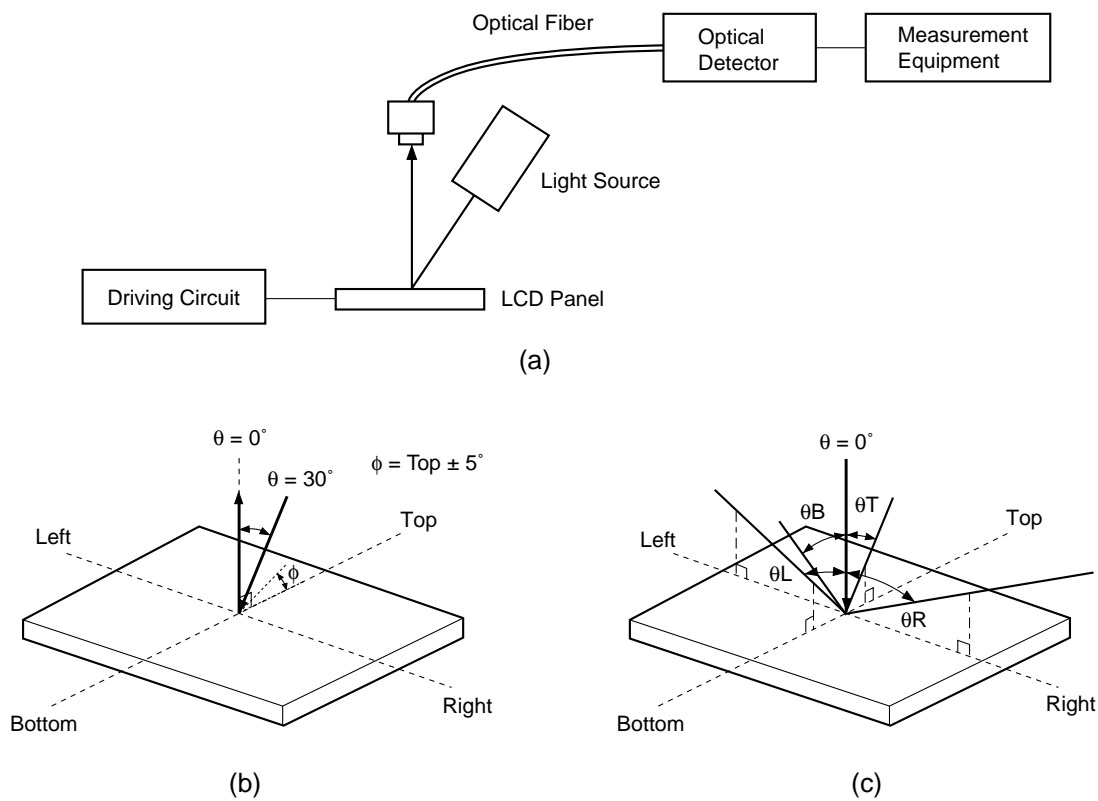

Fig. 1 Measurement System-1
1. Reflection ratio (R)
In the Measurement System-1 (see Fig. 1 (a), (b)), calculate the reflection ratio by using the formula (1).
2. Contrast ratio (CR)
In the Measurement System-1 (see Fig. 1 (a), (b)), measure the reflection ratio of "White" and "Black" respectively and calculate by using the formula (2).
In the Measurement System-1 (see Fig. 1 (c)), viewing area is defined by the area which makes the CR \geq 5.